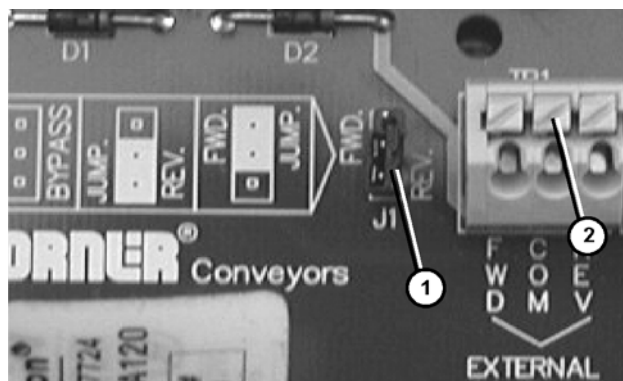

Figure 15
*Remove the direction jumper 'J1' (**Figure 15, item 1**) from the pins. This jumper is not required.*
Connect remote machine interface wires to the terminals labeled "External Contacts" (**Figure 15, item 2**).